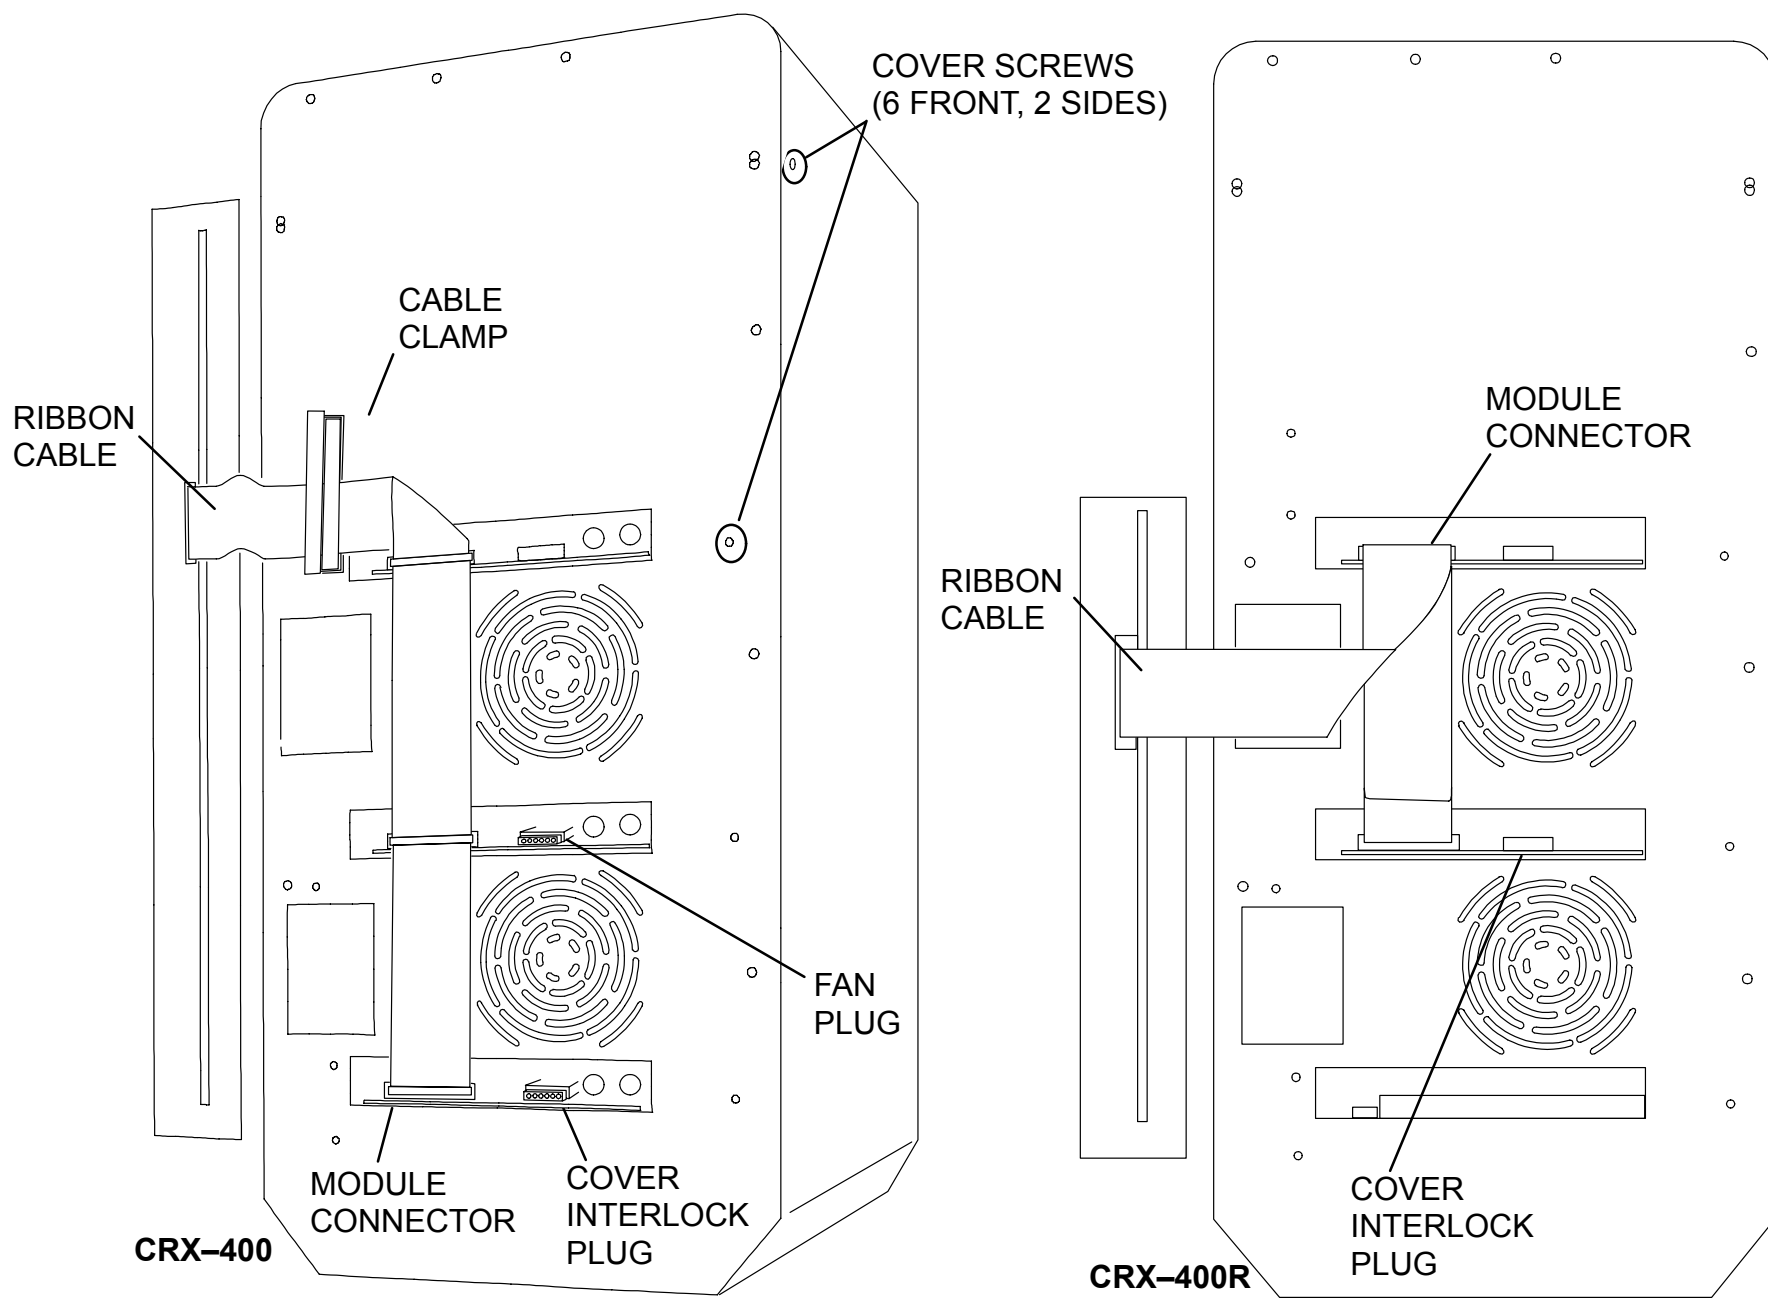

FIGURE 269 INVERTER CHASSIS COVER SCREWS
5. Open the hvgcc cover. Tag and remove the ribbon cable connected from the hvgcc control board to the inverter modules. See Figure 269.
7. Remove the six phillips head screws on the front and two phillips head screws on the side that secure the inverter cover to the inverter chassis. Refer to Figure 269.
8. Remove the inverter chassis cover. Refer to Figure 269.
5. Place the inverter chassis on a bench (or the floor) with the cover side up and remove the cover. Refer to the appropriate steps of the inverter module removal procedure and to Figure 269.